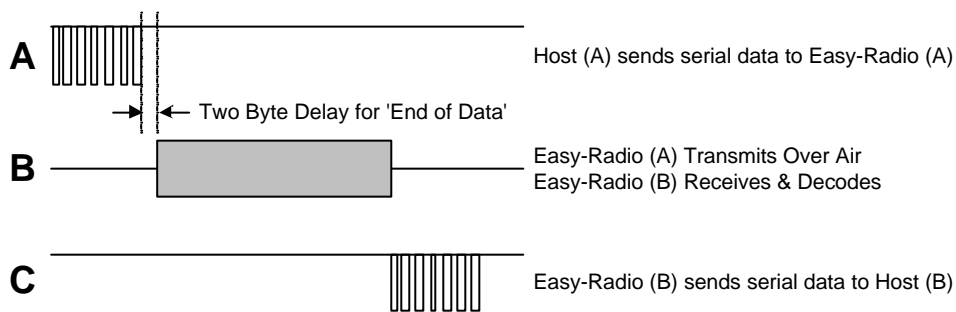

Figure 6 Serial Data
The Host (A) should provide the serial data input (up to a maximum 128 characters per packet) to the Easy-Radio transmitter. The data should be sent in 'bursts' therefore allowing adequate time for transmission and reception over the RF link (See Figure 6). The receiver, upon reception and decoding of the RF transmission immediately sends serial data to the Host B.